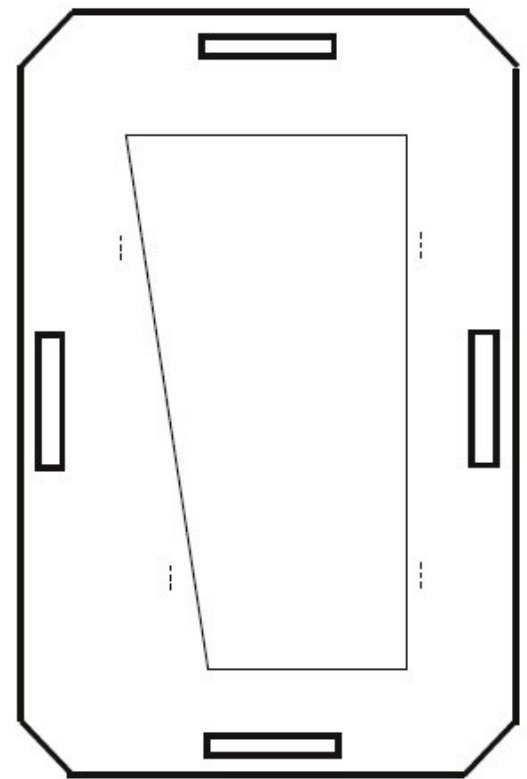

Fig. 2
- 11) Cut slits in the tray as seen in Fig. 2.